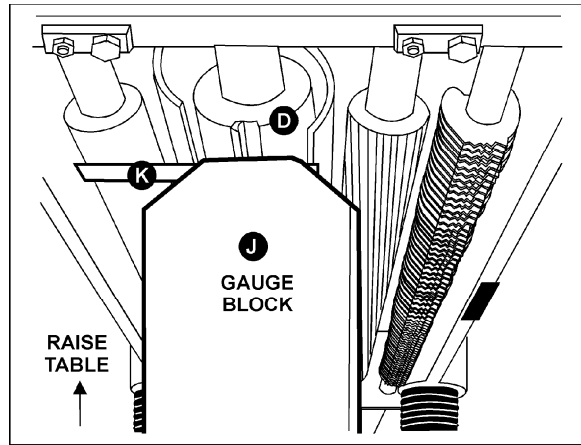

Figure 26
3. Place the gauge block (J, Figure 26) on the table directly beneath the cutterhead (D, Figure 26).
4. Using a 0.02" (0.5mm) feeler gauge (K, Figure 26) placed on top of the gauge block, raise the work table until the knife just touches the feeler gauge when the knife is at its lowest point. Do not move the work table any further until the outfeed roller is adjusted.